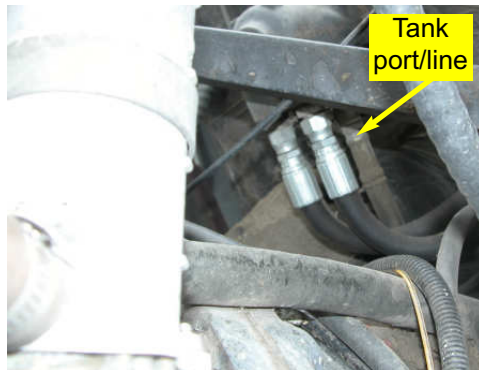

Figure 3b. Location of tank port/line.
- b. Remove the left rear line from the steering orbital. Excess flow and tank flow from the Automated Steering Block will be connected to the line originally attached at the orbital. (Figure 3b.)